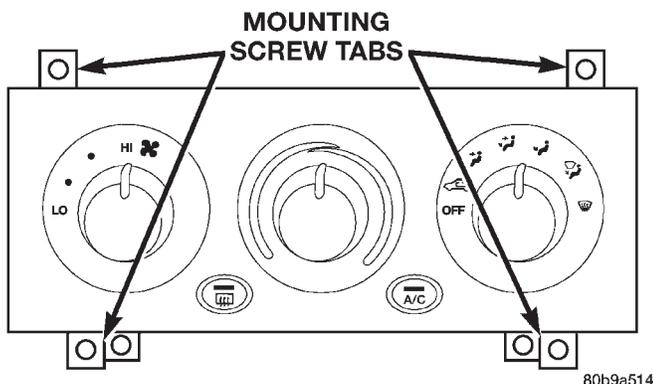

Fig. 46 Heater-A/C Control Remove/Install
- (1) Disconnect and isolate the battery negative cable.
- (2) Remove the inboard switch pod bezel from the instrument panel. Refer to Switch Pod Bezel in Group 8E - Instrument Panel Systems for the procedures.
- (3) Remove the 4 screws that secure the heater-A/C control to the instrument panel (Fig. 46).